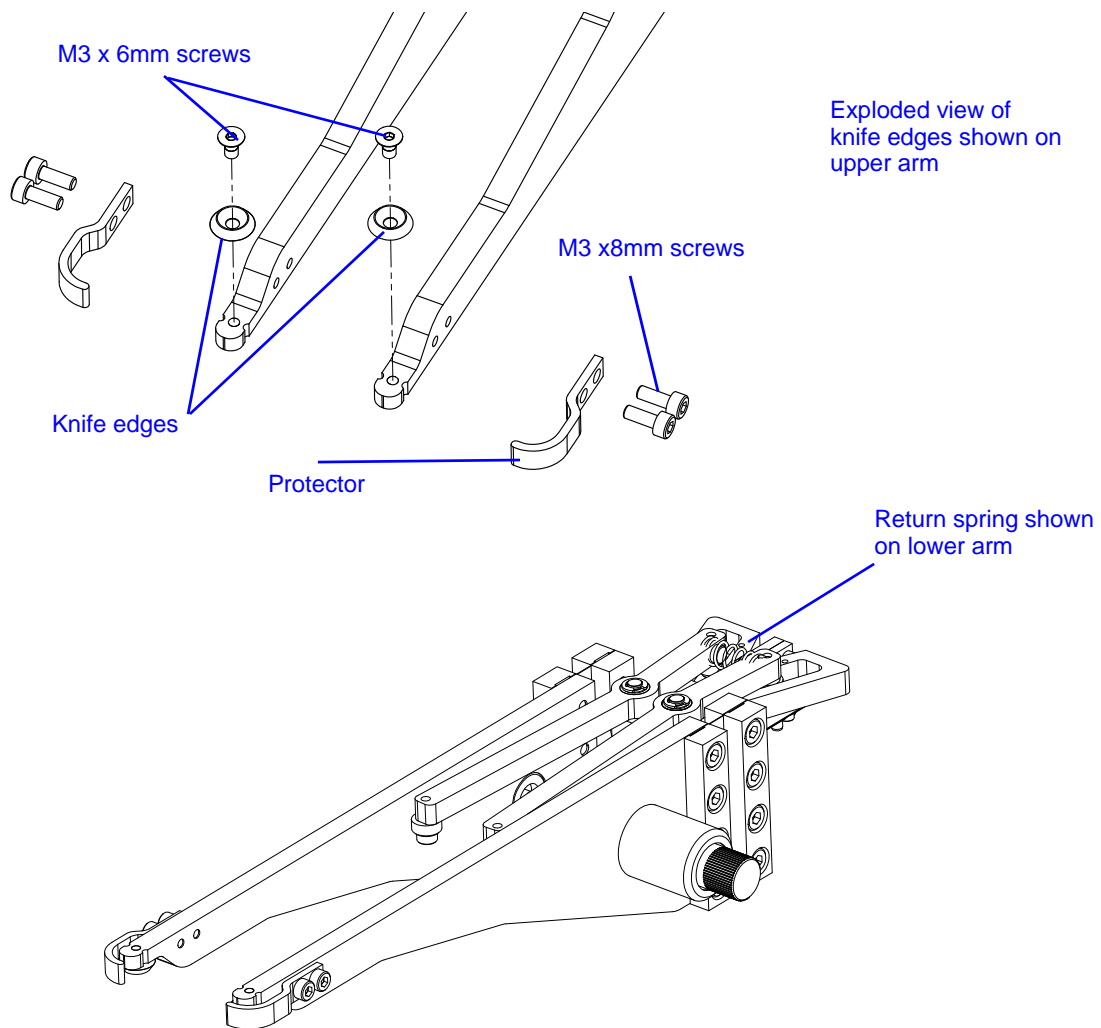

Figure 15. Knife Edges and Return Spring
Figure 15 on page 50 shows the knife edge assembly. Standard knife edges, provided with the instrument, are circular. Other shapes are available (refer to “Replaceable Parts” on page 53).
Prolonged use eventually weakens the return springs on the extensometer arms (see Figure 15 on page 50). Replacement springs are provided in the ancillary parts kit.
1. Using a 2mm hex key, remove the M3 screws and remove the standard knife edges (see Figure 15 on page 50). Store the knife edges and screws in a safe place.